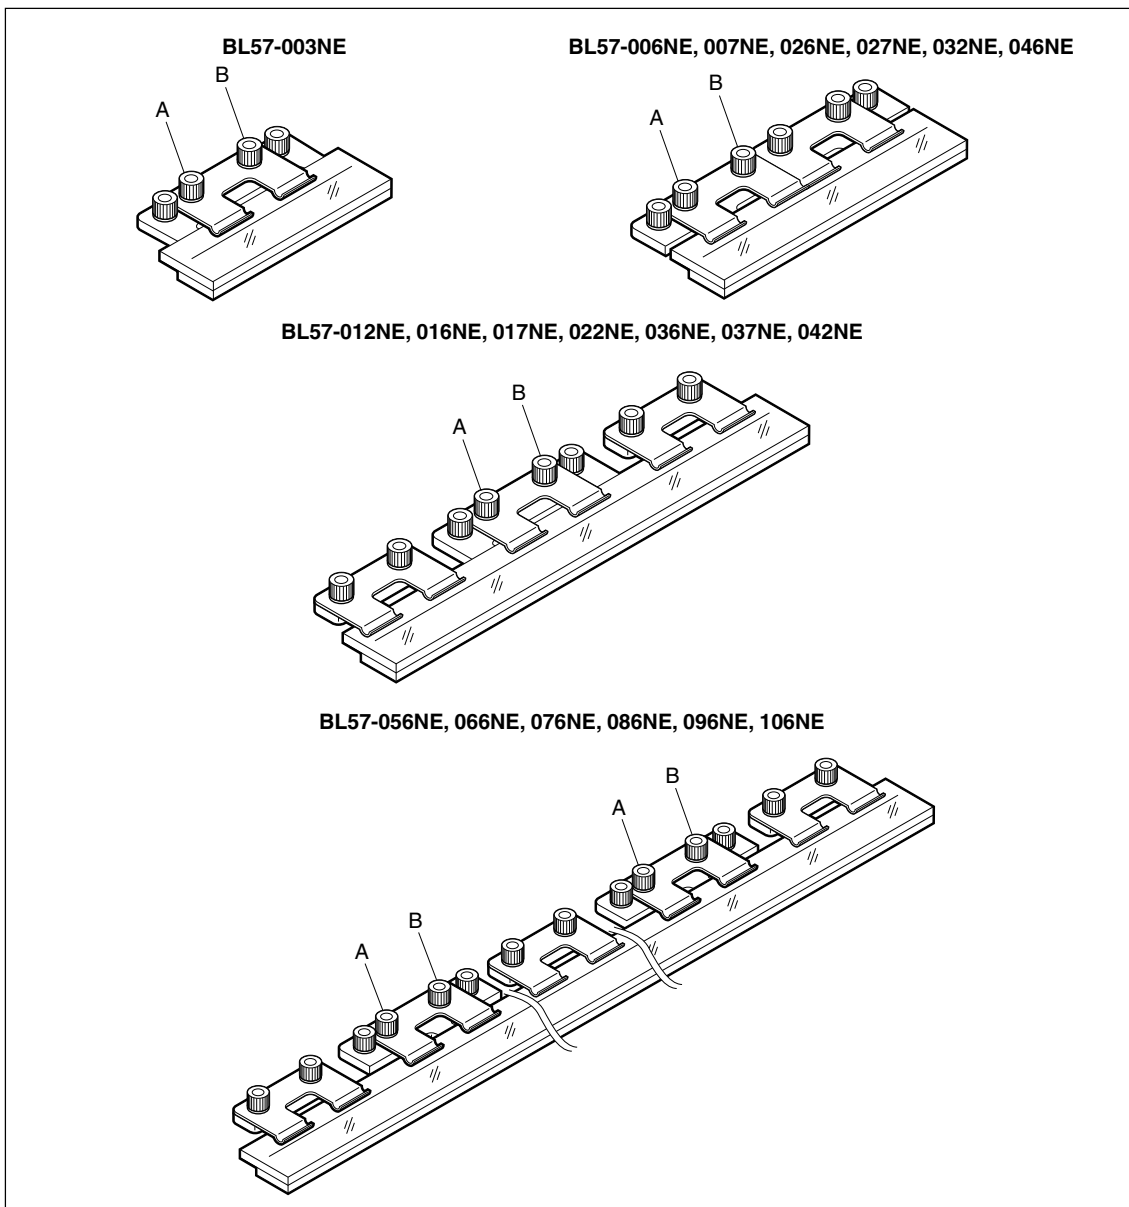

Fig. 3-8
- 5** Leave the scale in the condition of Fig. 3-8 for one hour or more until the scale temperature stabilizes.